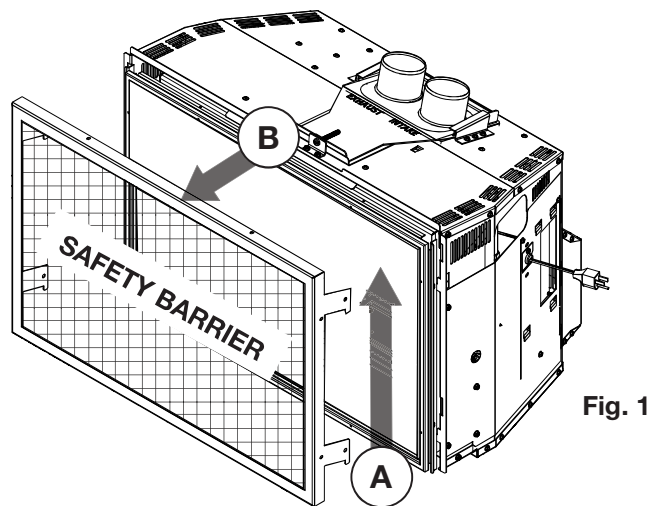

Fig. 1
1. Before the glass door can be removed, the safety barrier must be removed. Lift the safety barrier from the 4 tabs, tilt the top forward, and remove from the appliance (**Fig. 1**).